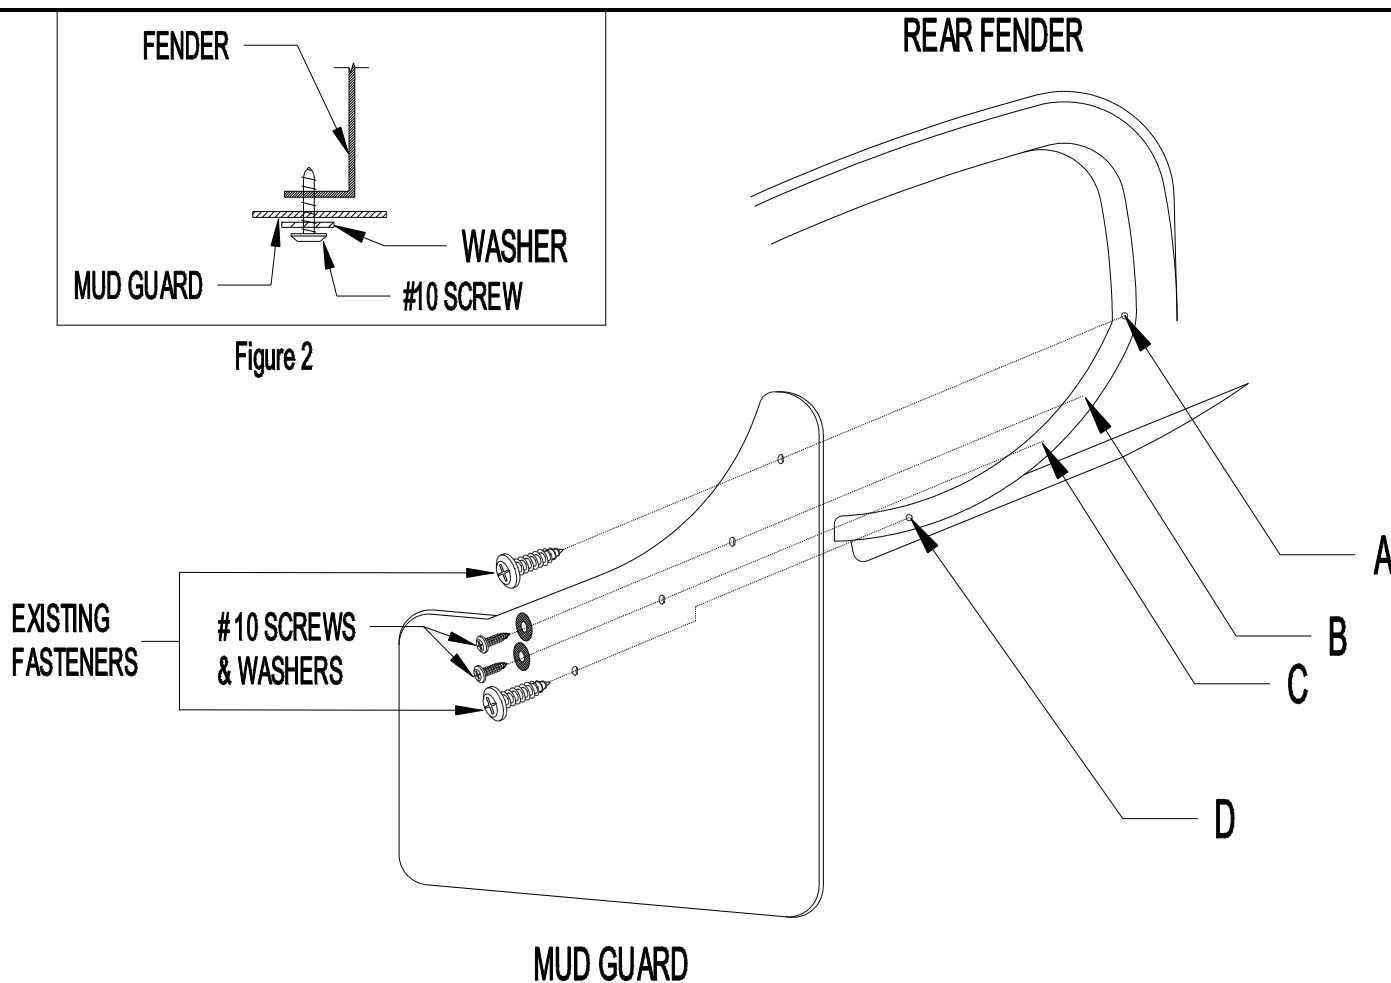

Figure 1
1. Remove existing fasteners from location A and D (Figure 1).
2. Install mud guard to rear fender with existing fasteners at locations A and D (Figure 1). Check fit and parallel and adjust accordingly before tightening.